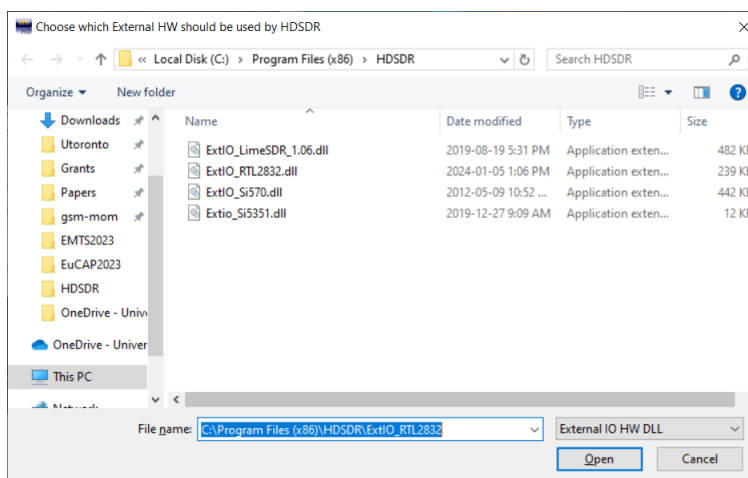

Figure 6: Dialog box for DLL file
4. Open the HDSDR application from the Start Menu. If the program prompts you for a DLL file, please choose the ExtIO_RTL2832.dll file as shown in Figure 6.